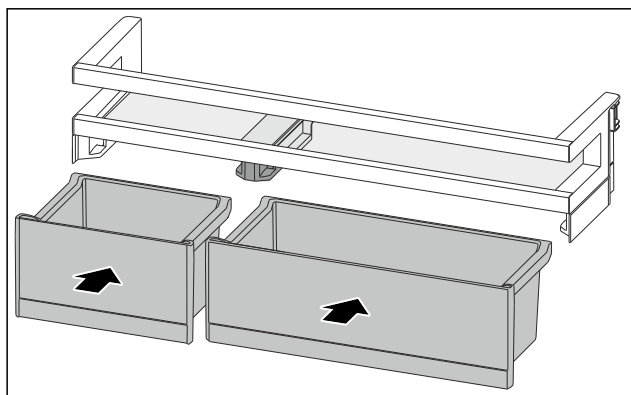

Fig. 108
- ▶ Insert the VarioBoxes opposite order. (see Fig. 108)